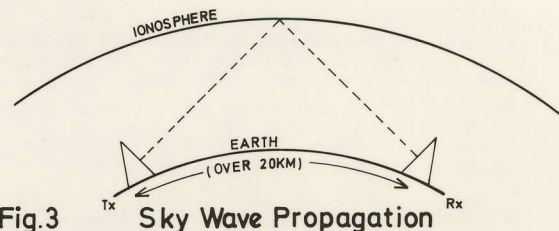

Fig.3 Sky Wave Propagation
- (b) Sky wave propagation: This is used for medium (20km-2000km) and long (over 2000km) distance propagation. The radio signals are 'bounced' off the ionosphere at an angle, thus reaching round the curvature of the earth (See Fig. 3).